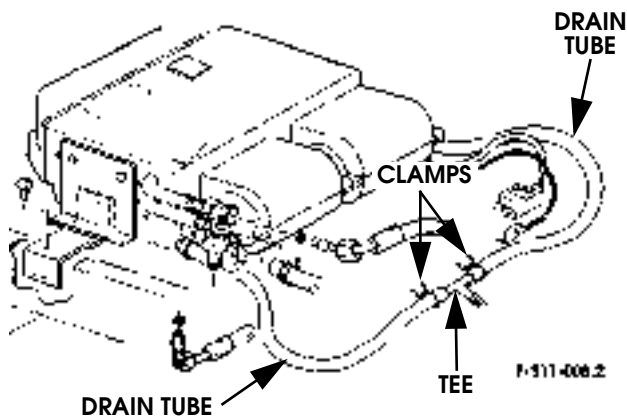

Figure 11-89: Auxiliary A/C Drain Tube Replacement
2. Remove clamps from drain tube section being replaced (Figure 11-89).
1. Install drain tube section and secure with clamps (Figure 11-89).